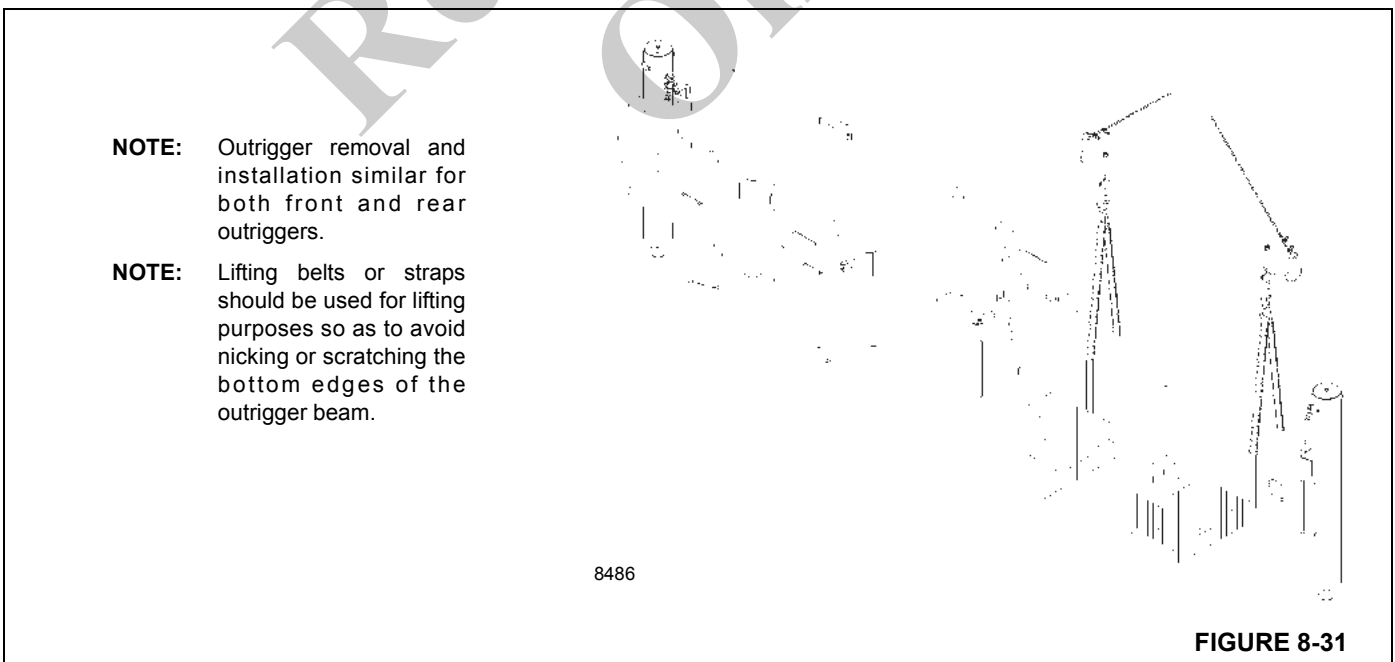

FIGURE 8-31
8. After attaching a suitable lifting device of straps or belts (Figure 8-31) instead of chains to prevent nicking the bottom edges of the outrigger beam, pull the outrigger beam out of the outrigger box, re-adjusting the lifting attachment to prevent the extension cylinder from sliding out of the outrigger beam when the beam clears the outrigger box.